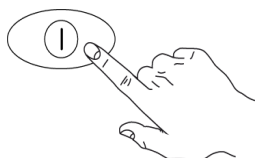

Fig.13
- 4- Close the door and press button “A” to turn ON the machine. (Fig.13)